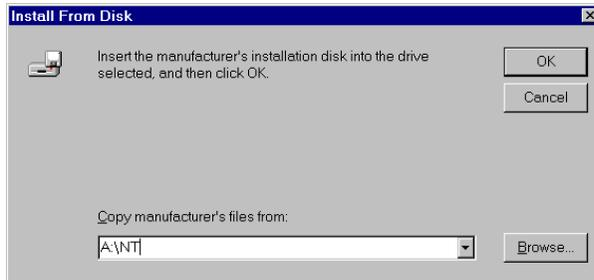

Figure 3-7. Change Path to A:\NT
9. From the Install From Disk box, change the path to A:\NT as shown in Figure 3-7 and click OK.